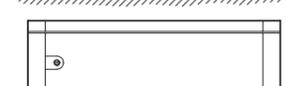

FIG. 2
- Rotate the DIGITAL PROTRACTOR so it faces away from you, the lettering should still be right-side up. (See Fig.2)